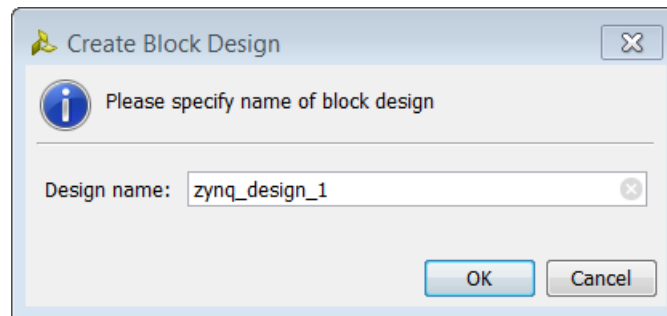

Figure 4: Create Block Design Dialog Box
2. In the **Create Block Design** popup menu, specify a name for your IP subsystem design (Figure 4)